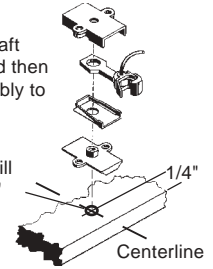

Fig.1
1. Assemble No.5® Coupler. Drill and tap a 2-56 hole 1/4" from edge on centerline. Use a 2-56 screw of appropriate length to secure No.5® Coupler. See Fig.1.